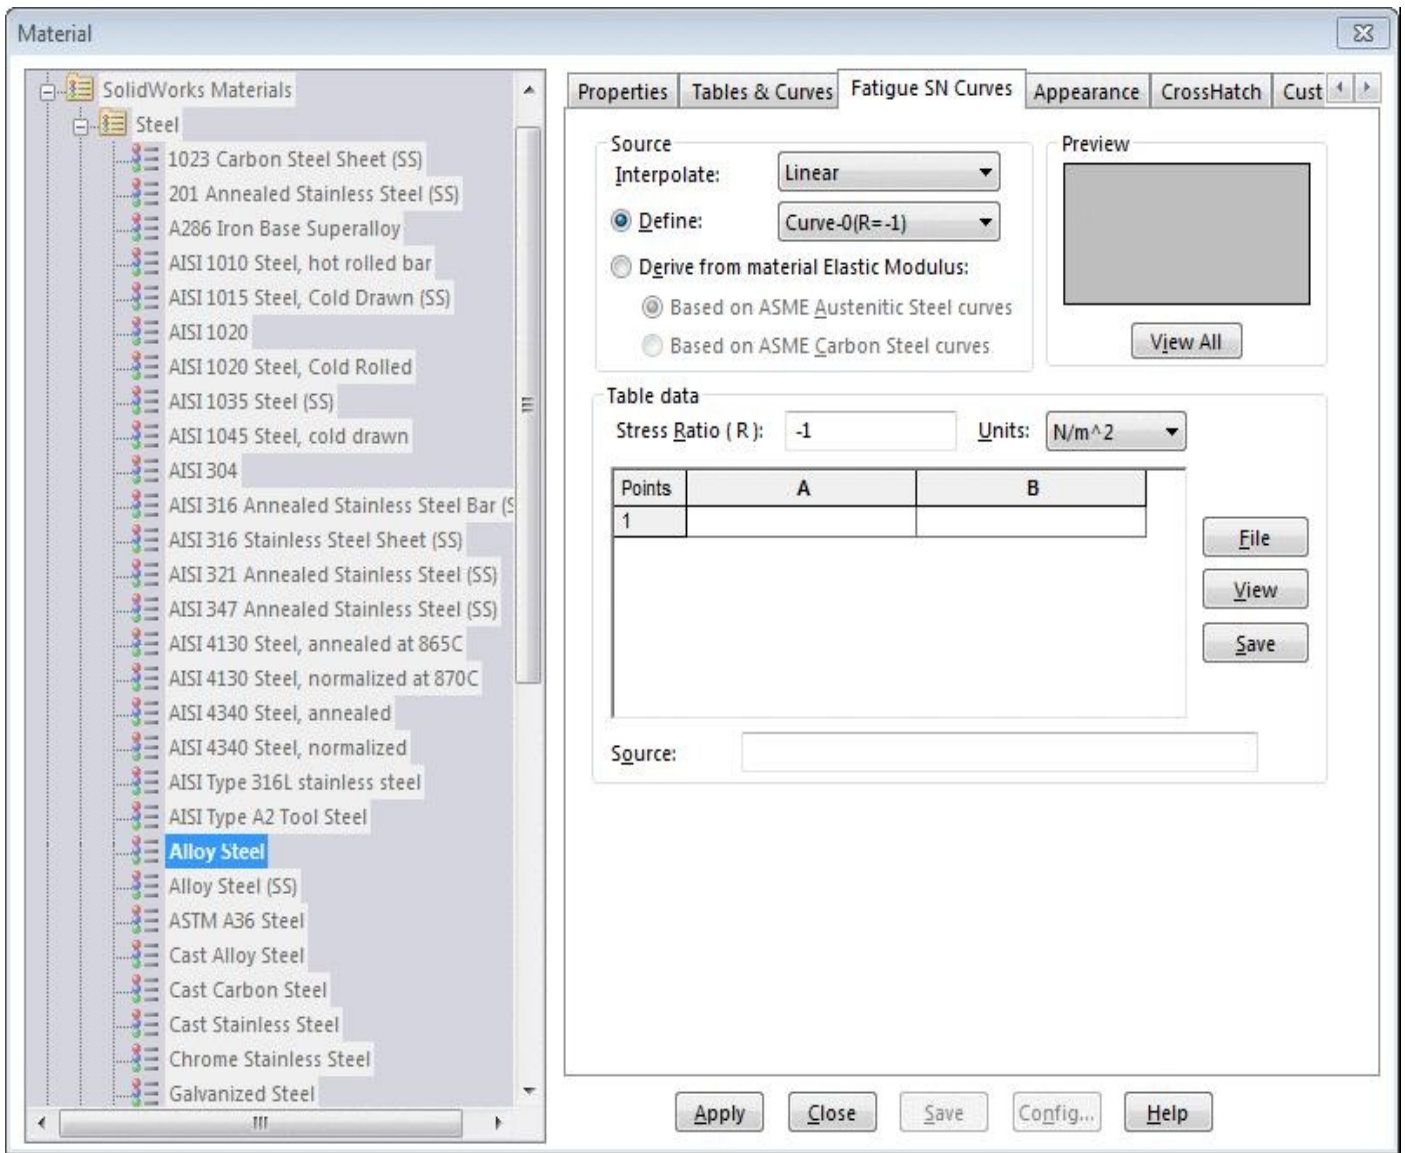

Figure-9. Fatigue SN Curve tab in Materials dialog box
- The **Fatigue SN Curves** tab in **Materials** dialog box will be displayed; refer to Figure-9.